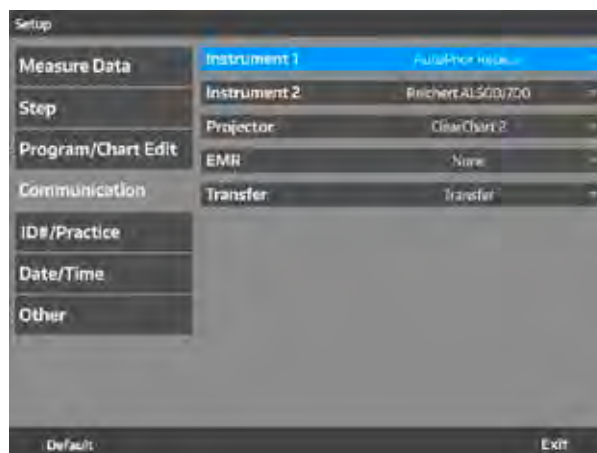

Figure IS-33 Settings Menu
1. Touch either **INSTRUMENT1** or **INSTRUMENT2** to add or edit auxiliary equipment connection settings. Refer to Figure IS-33.
1. Touch **PROJECTOR** on the Communication menu. Refer to Figure IS-33.